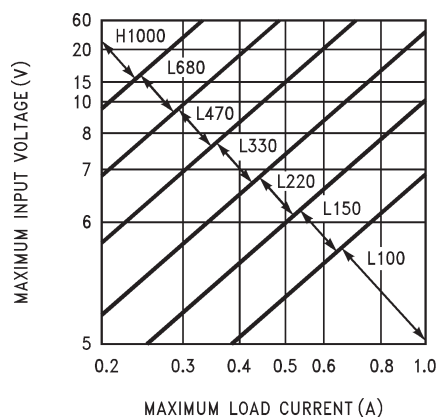
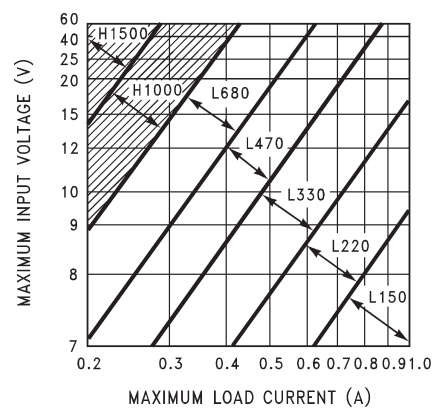
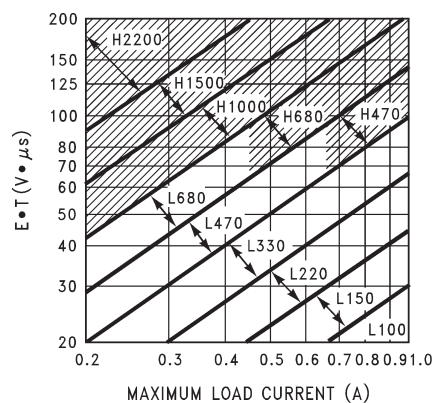

Figure 12. TL2575-33
Figure 13. TL2575-50
Figure 14. TL2575-ADJ
1. Inductor Selection (L1) A. From Figure 12 through Figure 14 , select the appropriate inductor code based on the intersection of $V_{IN(Max)}$ and $I_{LOAD(Max)}$. B. From Table 2 , choose the appropriate inductor based on the inductor code. Parts from three well-known inductor manufacturers are given. The inductor chosen should be rated for operation at 52-kHz and have a current rating of at least $1.15 \times I_{LOAD(Max)}$ to allow for the ripple current. The actual peak current in L1 (in normal operation) can be calculated as follows: $I_{L1(pk)} = I_{LOAD(Max)} + (V_{IN} - V_{OUT}) \times t_{on}/2L1$ Where $t_{on} = V_{OUT}/V_{IN} \times (1/f_{osc})$	1. Inductor Selection (L1) A. From Figure 13 (TL2575-05), the intersection of 20-V line and 1-A line gives an inductor code of L330. B. L330 → L1 = 330 μH Choose from: 34042 (Schott) PE-52627 (Pulse Engineering) RL1952 (Renco)